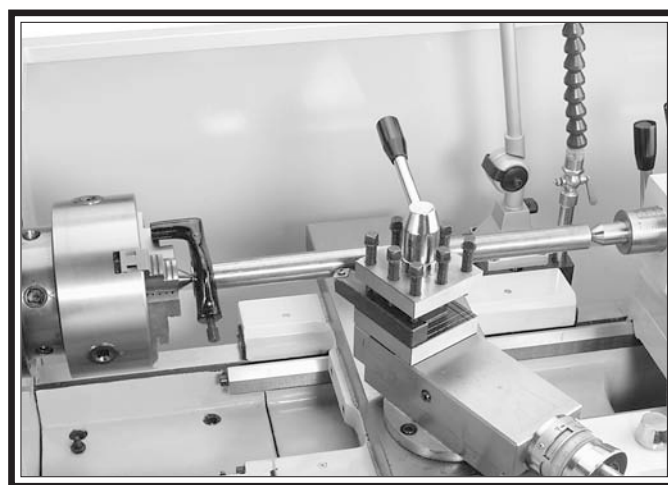

Figure 52. Example photo of a workpiece mounted between the centers.
- Seat the center firmly into the quill by rotating the quill handwheel clockwise to apply pressure against the workpiece (see the example in **Figure 52**).